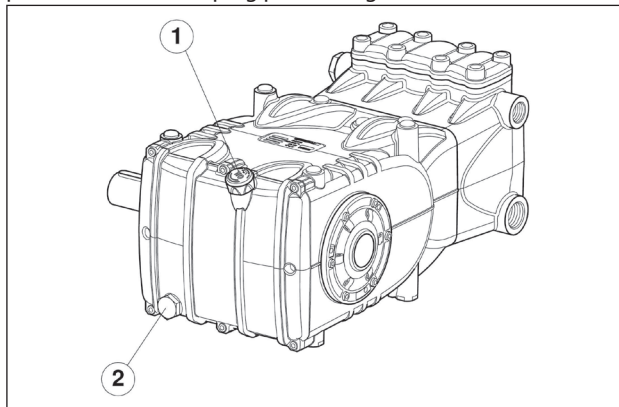

Fig. 1
To remove the oil it is necessary to remove: the oil dipstick pos. ① and then the plug pos. ②, (Fig. 1).